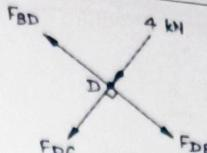

Fig 2.87
c) FBD of joint D: (Fig 2.87) By